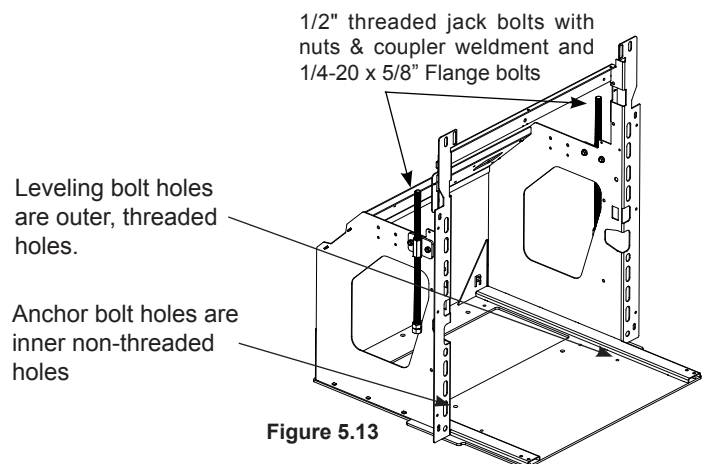

Figure 5.13
With the surround attached and the power cord installed, install the coupler nut weldments to the frame in the hole location that suits your needs with the (4) 1/4-20 x 5/8 flange screws and nuts and 1/2" jack bolts. Install the (4) 5/16"- 18 leveling bolts into the threaded holes in the bottom pan of the mounting frame, install the mounting frame into the opening and adjust these bolts to insure the frame is level. (**NOTE:** Use of all 4 leveling bolts may not be necessary.) Tighten the 1/2" jack bolts against the lintel using a wrench on the 1/2" nuts supplied on the jack bolts. See Figure 5.13.